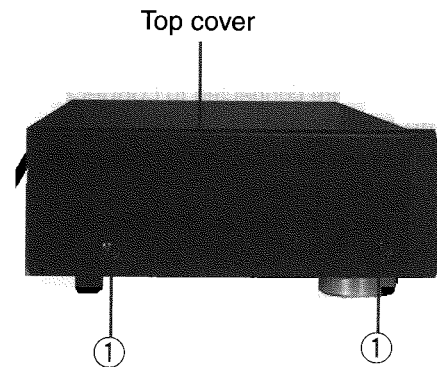

Fig. 1
■ Removing the Top Cover (See Fig. 1 ~3)
2. Remove the two screws ① retaining the top cover.
4. Remove the two screws ② retaining the top cover.
6. Remove the two screws ③ retaining the top cover.